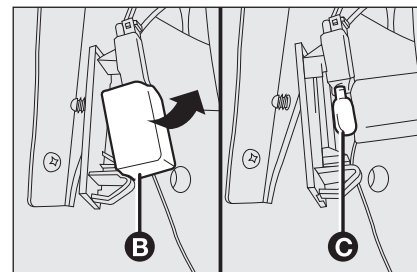

fig. 29
- ☐ open the bulb cover **B**-fig. 29 and replace the pressure-fit bulb **C**;